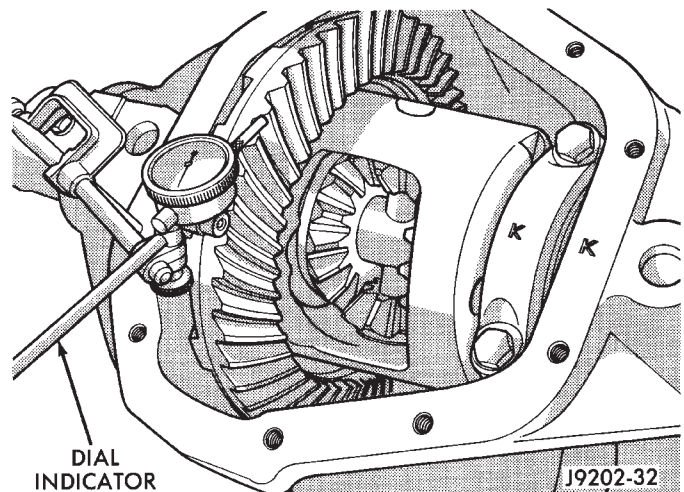

Fig. 70 Ring Gear Backlash Measurement
(25) This is the thickness shim required on the ring gear side of the differential case to achieve proper backlash.
(26) Subtract the backlash shim thickness from the total preload shim thickness. The remainder is the shim thickness required on the pinion side of the axle housing.
(27) Rotate dial indicator out of the way on guide stud.
(28) Remove differential case and dummy bearings from axle housing.
(29) Install side bearing shims on differential case hubs.
(30) Install side bearings and cups on differential case.
(31) Install spreader W-129-B on axle housing and spread axle opening enough to receive differential case.
(32) Install differential case in axle housing.
(33) Remove spreader from axle housing.
(34) Rotate the differential case several times to seat the side bearings.
(35) Position the indicator plunger against a ring gear tooth (Fig. 70).